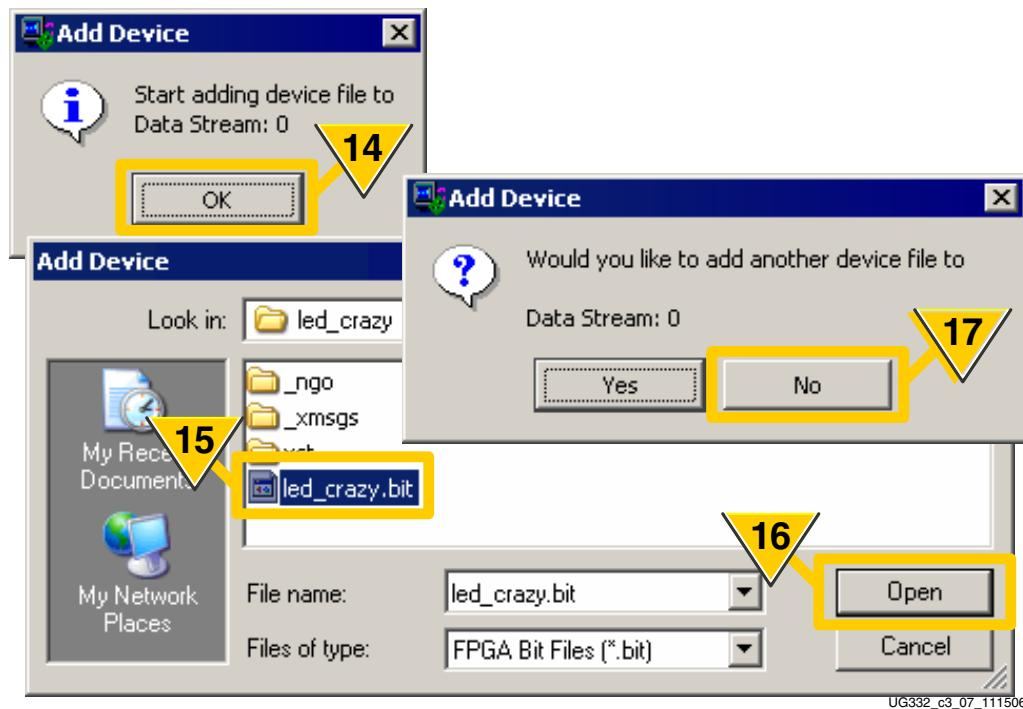

Figure 3-12: Add FPGA Configuration Bitstream File(s)
14. As shown in Figure 3-12, click OK to start adding bitstream files.